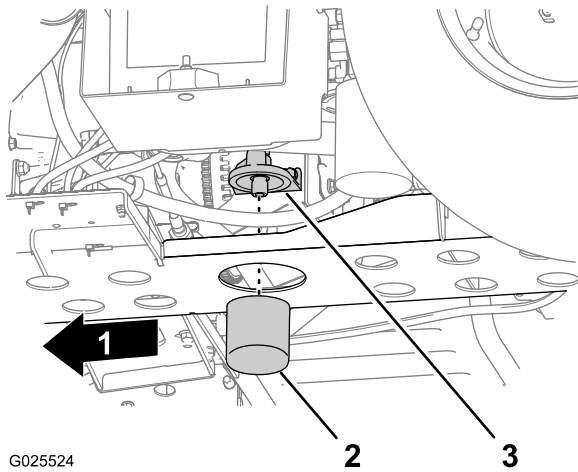

**Figure 44**
2. Align a large drain pan under the oil-drain plug (Figure 44).
3. Remove the drain plug and let the oil flow into a drain pan (Figure 44).